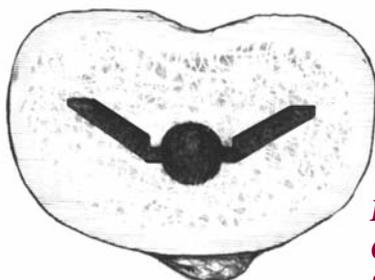

Figure 51
- ▶ Once the final punch has been seated, tibial preparation is complete (Figure 51).